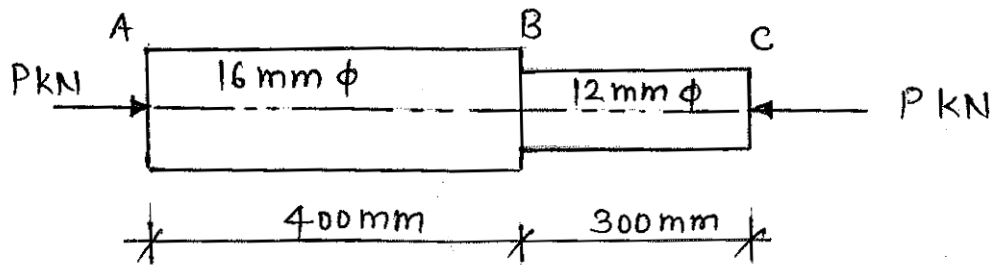

Fig No. 1
- A bar ABC is axially loaded as shown in fig. No.1. If the maximum stress induced in bar is 100 MPa , calculate the value of 'P'. Also calculate net deformation of bar. Take $E = 102 \text{ GPa}$ for both parts.